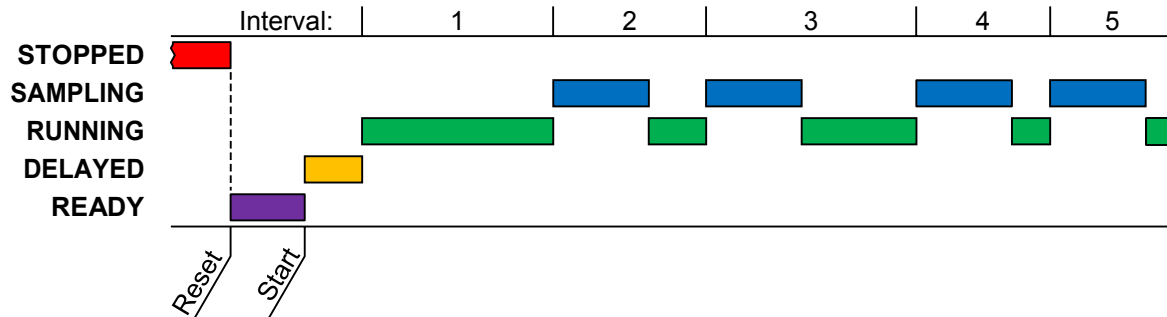

Figure A-3: Basic Sample Timing Diagram
- If a non-zero value (up to 9999 minutes) has been assigned to the Delay Start run Option (Chapter 4.6.2), the first sampling interval will be further delayed by that many minutes (see Figure A-3 Appendix A.3.2). Until then, the program will display its operating state as DELAYED.